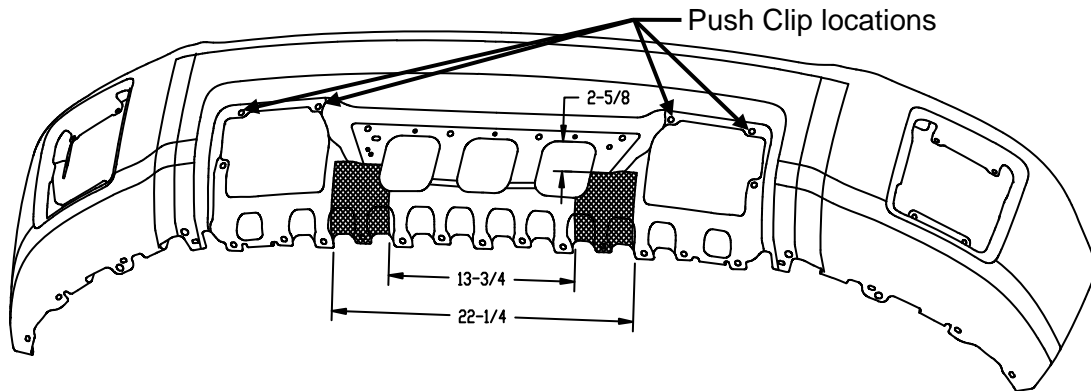

Figure 2
6. Notch the steel bumper shell to accommodate the replacement trim. Follow **Figure 2** as a guide for notching, shaded area to be removed; additional trimming may be required.